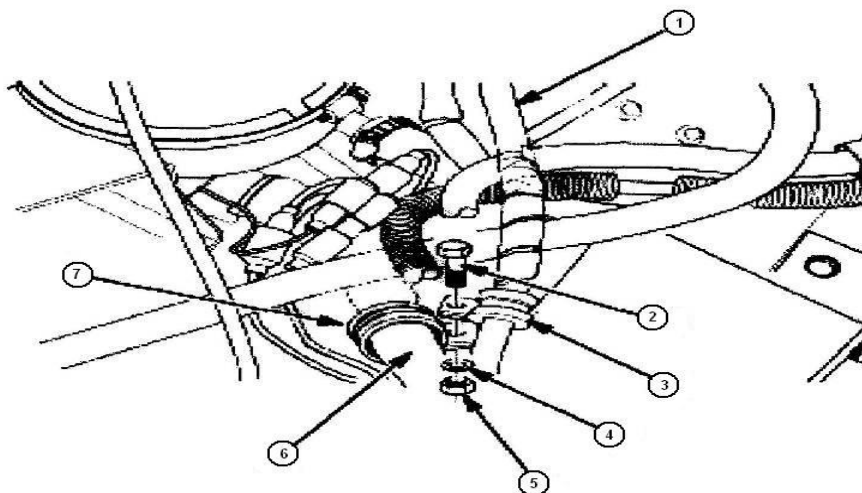

Figure 49
(9) Install MS21333-129 clamp (7) on engine wiring harness (6) and MS21333-126 clamp (3) on 12339317 cable (1) and secure together with B1821BH038C075N screw (2), 2436163 washer (4), and M45913/4-6CG8Z nut (5) as shown in **Figure 49**.